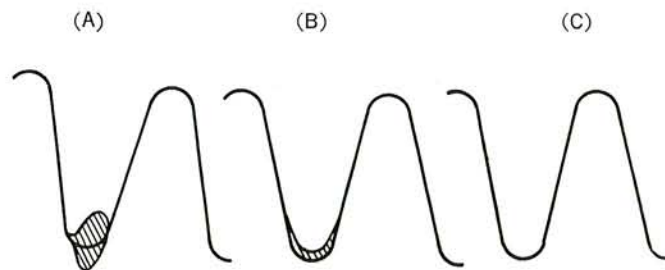

Fig. 51 Wave-form TP306 for over-all adjustment of modulator and demodulator.
13. Adjust the output of SSG and set it at the position just before the phenomenon as shown in Fig. 51-A happens, on the output wave-form at TP306.
14. The output wave-form at the above point is to be found as Fig. 51-B, so adjust the R313, R348, and R355 to obtain the wave-form as shown in Fig. 51-C.